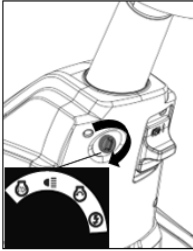

Figure 18
5.2 Ignition lock (Figures 18 & 19)